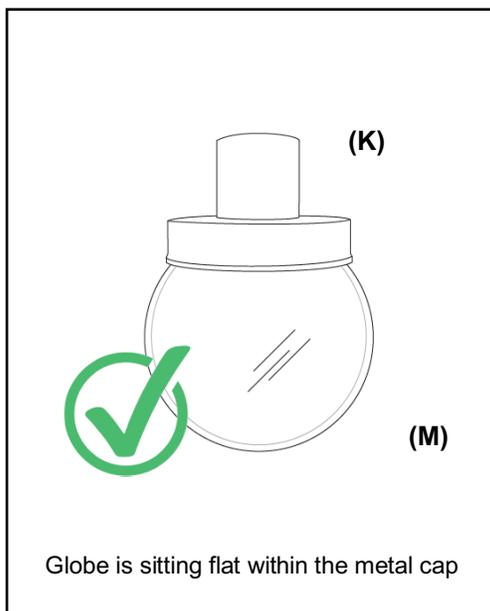
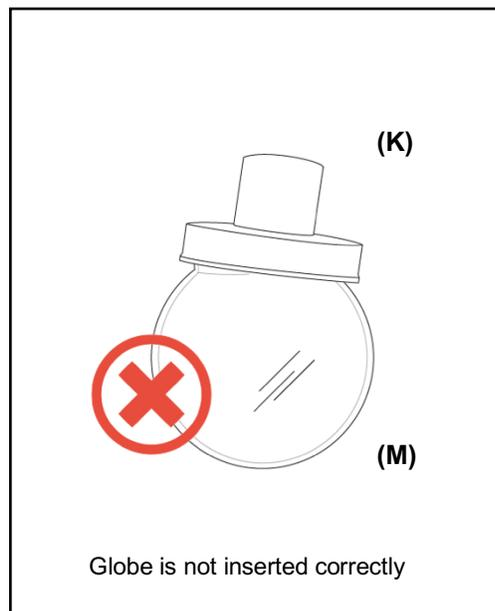

Fig 1
Fig 2
### To adjust the suspension length of the fixture (Fig 1):
(Fig 1)
- 5) Re-insert the cord first through the Canopy Loop (H) and then through the Grounding washer (F), Hex Nut (E) and into the crossbar's threaded pipe. Pull the cord through tightly so that the chain's Quick Link (I) can attach to the Canopy Ring (H). (Fig 2)
(Fig 2)
- 3) Place one hand on the Metal Cap (K) to prevent it from spinning
- 4) With the other hand, carefully rotate the Glass cover (M) in a counter-clockwise direction until it becomes loose. Set Glass Globe down while bulb is replaced.
- 5) Insert one (1) 60w max light bulb
- 6) To reattach glass globe, first place one hand on the Metal Cap (K) to prevent it from spinning
- 7) With the other hand, insert the glass globe until you can feel it sit entirely flat within the metal cap (Fig 1). Check visually from all angles that the globe is fully inserted and in a flat position before you begin to turn. **ENSURE GLASS COVER IS SITTING FLAT INSIDE THE METAL CAP BEFORE ROTATING.** If the globe is not sitting flat, it will not connect properly with the threading (Fig 2). **NOTE:** Getting the globe to sit flat may take a few attempts since alignment with the threading is specific.